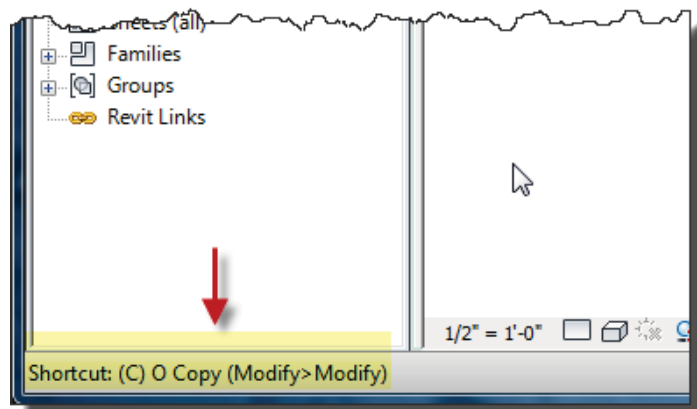

Figure 12 - Status bar
7. If you only remember the first letter of your keyboard shortcut, just type it and look down at the bottom left of your Revit drawing area (Figure 12). This is the status bar. You'll see the letter you just typed plus the corresponding second and/or third letters. You'll also see a short description of the tool function and its panel location. When you click your keyboard arrow key, the text content cycles through any other keyboard shortcut for other tools that starts with the letter you just typed.